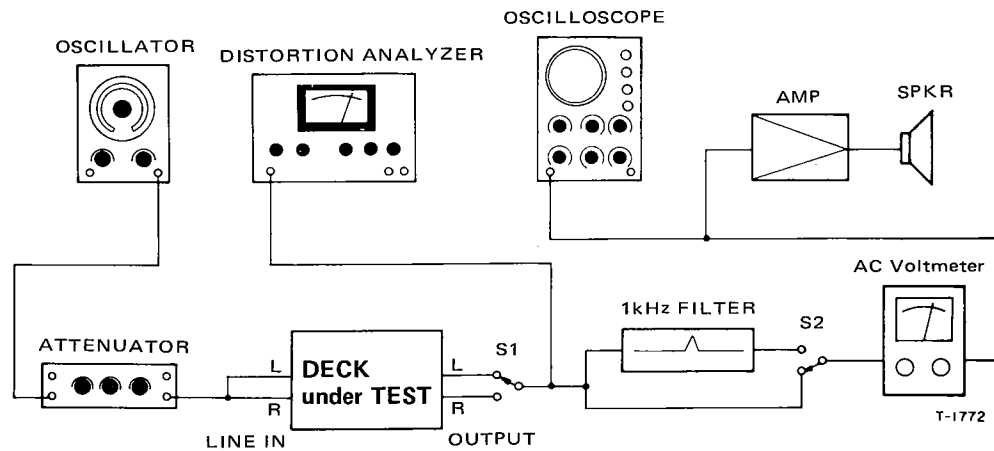

Fig. 5-1 Basic test setup
18. Erase efficiency	<ul style="list-style-type: none"> <li>• Connection is same as in Fig. 5-1, but engage 1-kHz filter.</li> <li>• Record a 1-kHz signal. Rewind tape to midpoint of recorded portion. Record a "no signal" portion. Find the difference between the 1-kHz portion and the "no-signal" portion.</li> </ul>
19. REC MUTE function	<ul style="list-style-type: none"> <li>• Connection: Fig. 5-1, but engage 1-kHz filter.</li> <li>• Record a 1-kHz signal. Push REC MUTE button for several seconds. Rewind and play the tape. Find the difference between the 1-kHz portion and the "no-signal" portion.</li> </ul>
20. Channel separation	<ul style="list-style-type: none"> <li>• Connection: Fig. 5-1, but do not connect LINE IN (R), and engage 1-kHz filter.</li> <li>• Set the deck to record mode. Find the difference between the 1-kHz recorded portion (L-ch) and the "no signal" portion (R-ch).</li> </ul>
21. Adjacent track crosstalk	<ul style="list-style-type: none"> <li>• Connection: Fig. 5-1, but do not connect LINE IN (L) and OUTPUT (L).</li> <li>• Record a 125-Hz signal on R-ch and note output level. Invert tape and play R-ch track. Check leakage level against the output reference of previously recorded portion.</li> </ul>